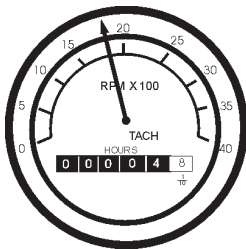

Figure 58. Engine Tachometer
16. The tachometer (Figure 58) will indicate the speed of the engine when the generator is operating. Under normal operating conditions this speed is approximately 1800 RPM's.